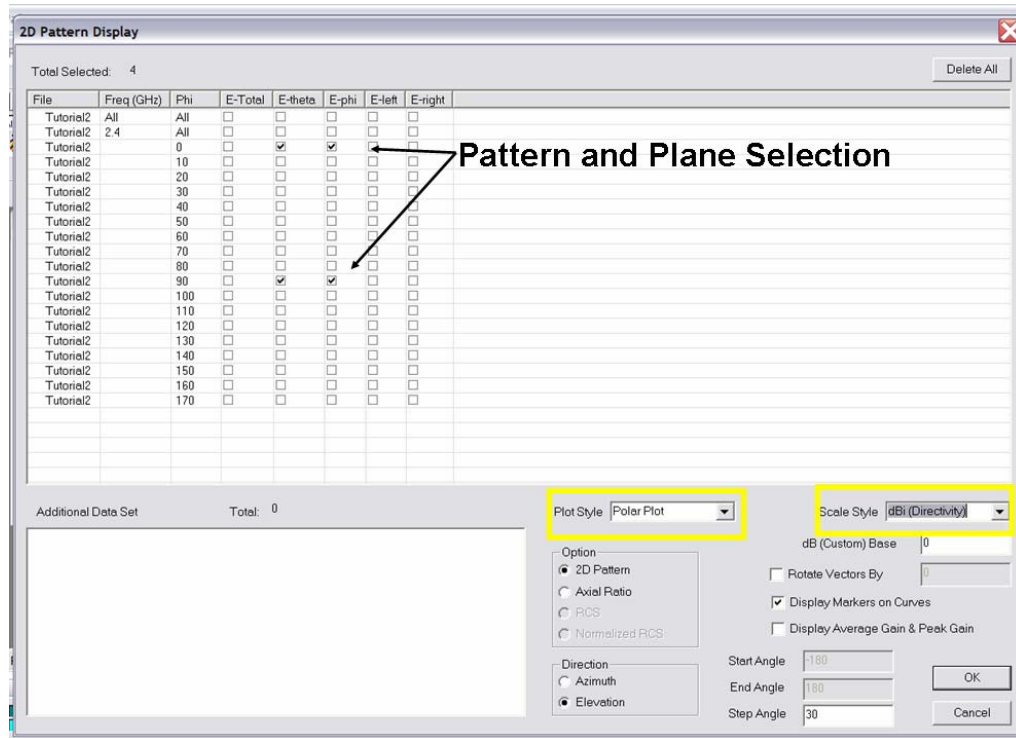

Figure 31.
- 36) Select the “Display → 2D Pattern...” item. The “2D Pattern Display” window pops up. In this window, you can choose the 2D plane, in which you want to plot the patterns. Furthermore, you can choose the type of plot (polar or Cartesian) as well as the type of the pattern (gain or directivity). Select the E-theta and E-phi components at  $\Phi=0^\circ$  and  $90^\circ$ . Choose “Polar Plot” as the plot style and dBi (Directivity) as the scale style and click OK (as shown in Figure 31).